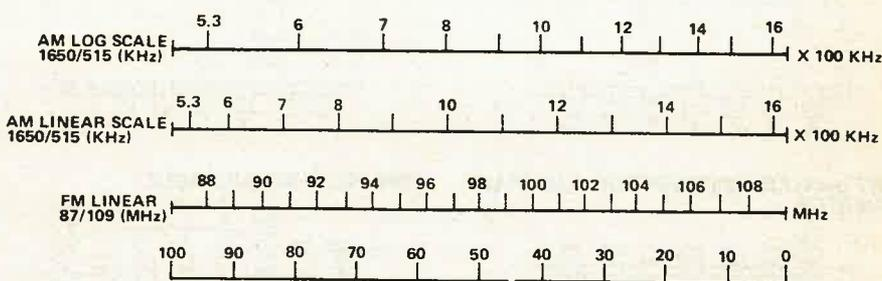

Fig. 15. The standard dial formats.
**Square Law** The variation in capacitance is proportional to the square of the angle of rotation. This is also used in measuring instruments. Typical dial calibrations and capacitor tuning law curves are shown in Fig. 15.